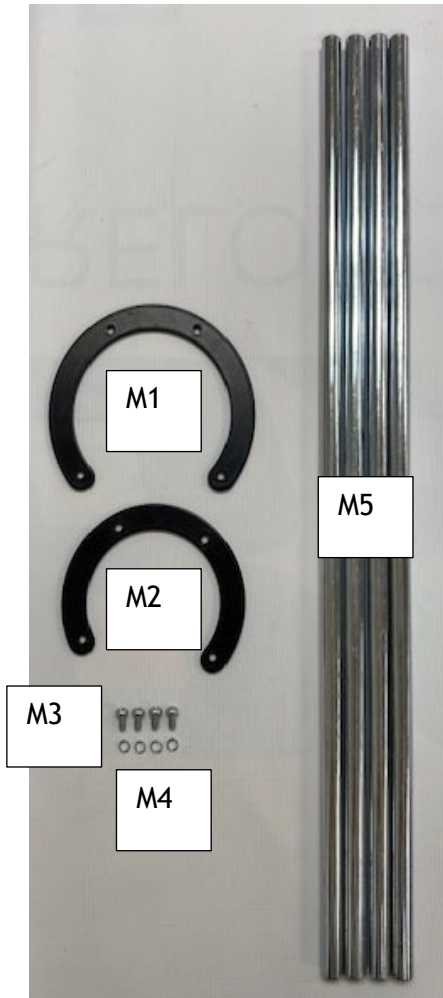

Figure 16
A. Assemble and tighten the 4 Magazine Rods (M5) to the 110mm Standard Top Plate (M1) with four button head screws (M3) and 4 Lock Washers (M4). It is shown in figure 16.